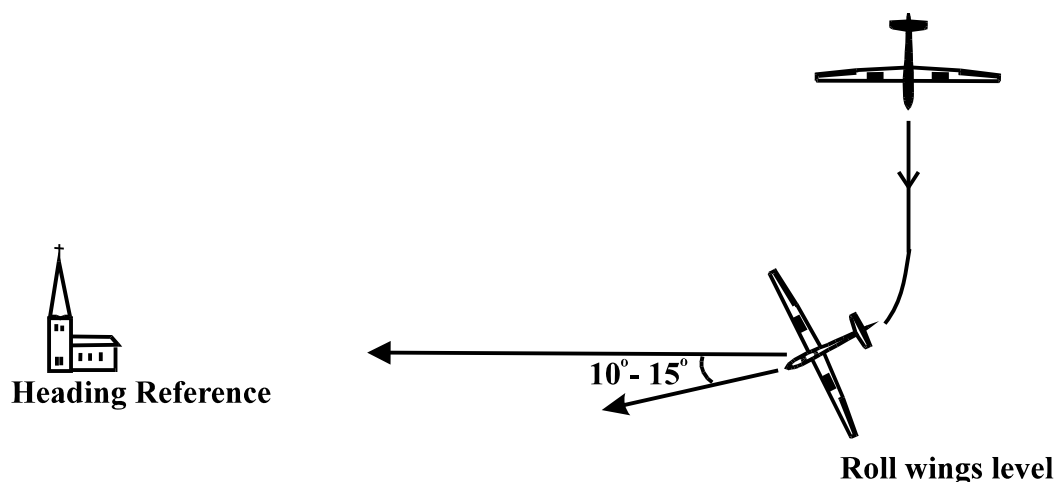

Fig 7. Rolling out onto a selected feature.
- (1) Use co-ordinated controls to return to the straight glide attitude.
- (2) As soon as this attitude is achieved, look out to check the area which had been masked by the raised wing during the turn.
- (3) Resume the normal scan for a straight glide.
4. **Rolling out onto a selected feature.** This exercise requires anticipation because the aircraft continues turning, although at a reducing rate, until the wings are levelled. See Fig 7.